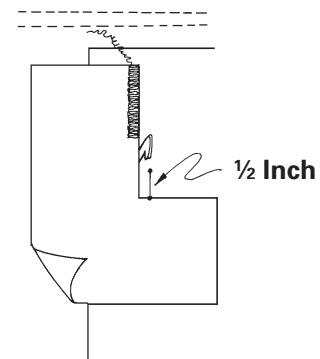

Fig. 21-4
2. Serge one inside edge (without trimming away any fabric), and stop when the serger knives are about 1/2 inch (1.3 cm) from the actual corner. (Fig. 21-4) Turn the hand-wheel to place the serger needle down into the fabric.